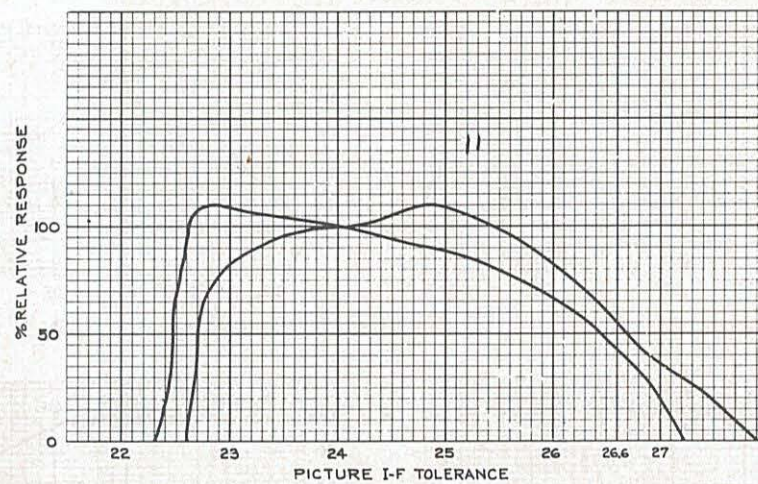
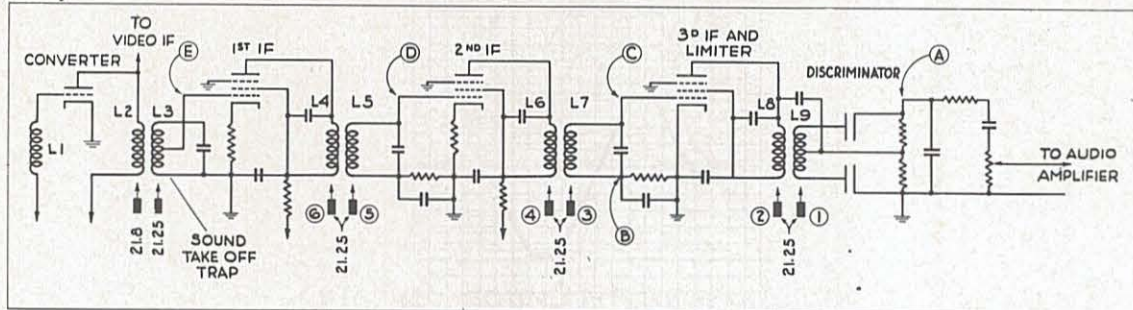
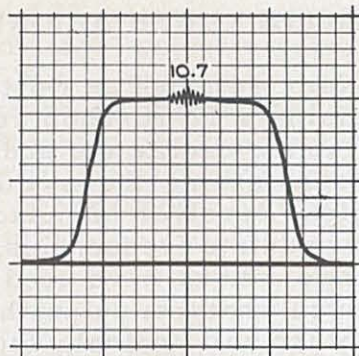

FIGURE 7. RESPONSE TOLERANCE - BAND PASS I-F
FIG. 8. TYPICAL TV SOUND IF SYSTEM
FIG. 12. SOUND I-F RESPONSE
Touch up adjustments are permissible to improve the over-all response curve. Be careful to select the adjustment which affects the part of the curve which needs correction. Figure 7 shows the acceptable limits of the over-all response curve with the amplitude at 24.0 mc. for a reference point. Conduct the alignment to produce a curve which is within these tolerances.
Figure 8 is the schematic diagram of a typical sound i-f system composed of three i-f amplifier stages and a discriminator. The third i-f stage acts as a limiter to reduce the effects of amplitude modulation. Usually the alignment will begin at the discriminator and work back, stage-by-stage, to the converter. Proceed as follows:
2. Connect the Model 479 OUTPUT cable between point "C" and ground (see figure 8). Use any desired termination. See table 2 for data on the termination box connections. Use the series condenser (do not jumper terminals 1 and 6).
3. Connect the SIGNAL INPUT cable between point "A" and ground (figure 8).
11. Adjust the discriminator secondary (L9 in figure 8) until the 400 cycle pattern disappears and then re-appears if the adjustment is continued in the same direction. Be sure to make this adjustment to the exact null point with the SIGNAL ATTENUATORS set low to avoid a broad response due to a high signal amplitude.
12. Adjust the discriminator primary (L8 in figure 8) until a maximum amplitude symmetrical pattern is achieved as shown in figure 7. Reduce the F.M. ATTENUATOR setting as the amplitude of the curve increases. Readjust the secondary if the 400 cycle modulation reappears.
13. Move the OUTPUT cable to the grid of the next preceding stage (point "D" in figure 8).
14. Move the SIGNAL INPUT connection to the grid of the limiter (point "C" in figure 8).
15. Turn the SIGNAL switch to UNMOD. R.F. and adjust the F.M. and SIGNAL ATTENUATORS to obtain an i-f response curve similar to figure 12. The curve may be distorted until the next adjustment has been made.
16. Adjust L7 and L6 of figure 8 for a symmetrical response of maximum height similar to figure 12. The marker should appear at the center. Keep the F.M. ATTENUATORS set as low as possible to avoid overloading and keep the SIGNAL ATTENUATORS set low to avoid distortion of the response curve at the marker point.
17. Connect the OUTPUT cable to the grid of the next preceding stage (point "E" in figure 8). Adjust L5 and L4 for a symmetrical response curve of maximum height as in step 16 above.
2. Connect the SIGNAL INPUT cable across the output of the demodulator stage (point "A" in figure 8).